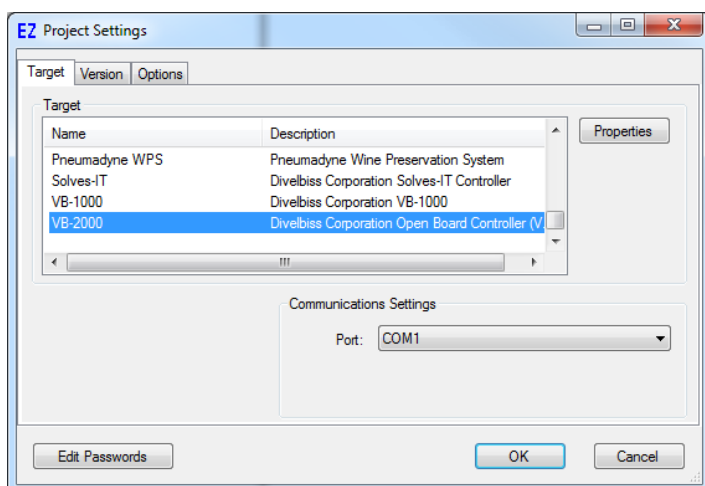

Figure 1-2 - Project Settings Window
1. In EZ LADDER, from the File Menu at the top, click **PROJECT** then **SETTINGS**. This will open the Project Settings Window. Select **VB-2000** as the target from the choices. Refer to Figure 1-2.